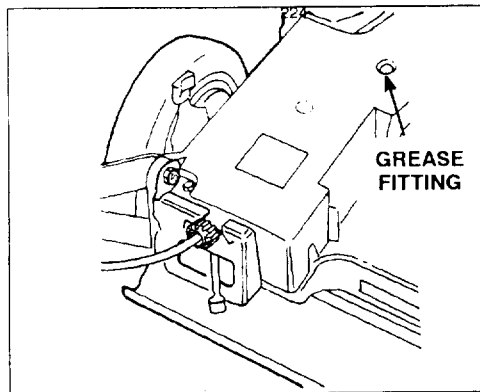

Figure 19
1. Install grease gun onto fitting thru belt cover opening (Fig. 19). Gently apply 1–2 pumps of grease.